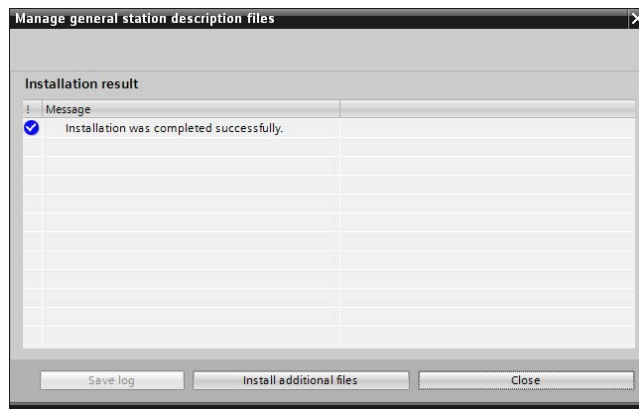

Figure 79. Successful Installation of the GSDML File
3. Select the GSDML file box and click **Install** to install the GSDML file (see Figure 79).